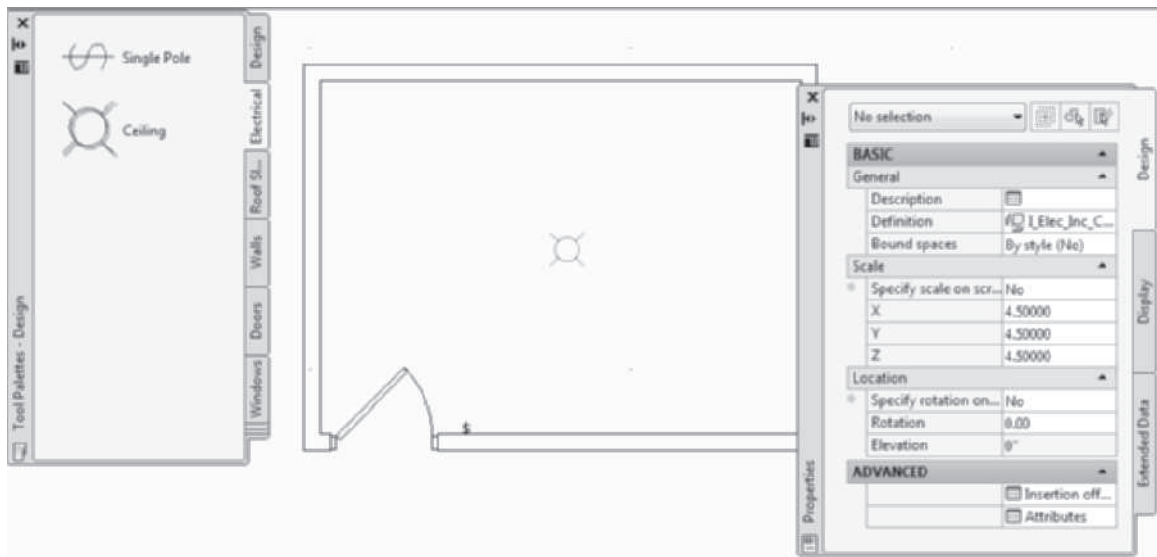

FIGURE 10.14 Incandescent light symbol placed near center of room
11. Open the **Electrical > Lighting > Incandescent** category of the Design Tool Catalog—Imperial. Drag the i-drop for the **Ceiling** symbol onto the **Electrical** tool palette of the drawing. Select the **Ceiling** symbol from the tool palette and place the symbol near the middle of the room as shown in Figure 10.14. Press ESC to end the command.